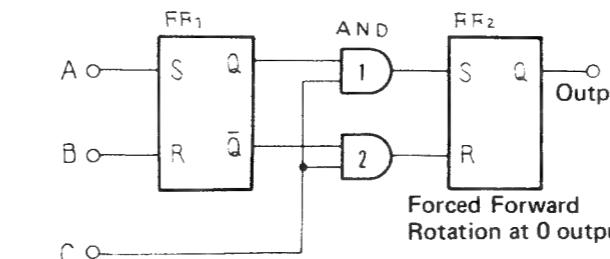

Fig. 21
- This Reverse Rotation Prevention circuit consists of two flip-flops and AND gates See Fig. 21.